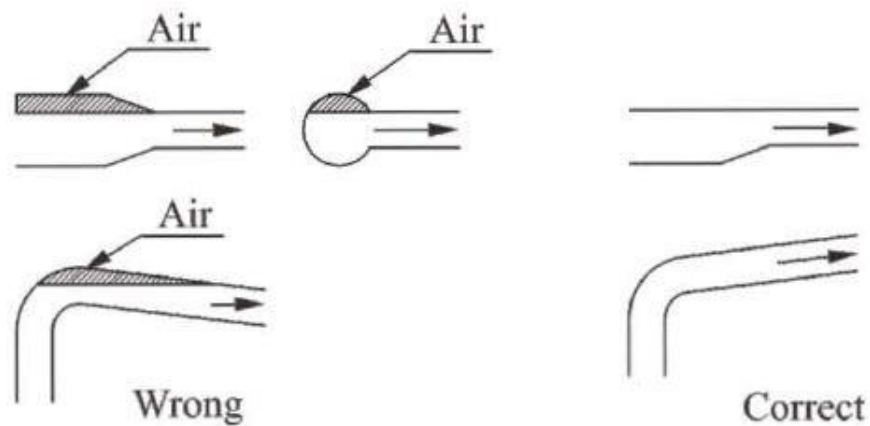

Figure 1. Flow direction
- The air locks shall be avoided when installing the inlet pipe line. (See Figure 1. on the next page)